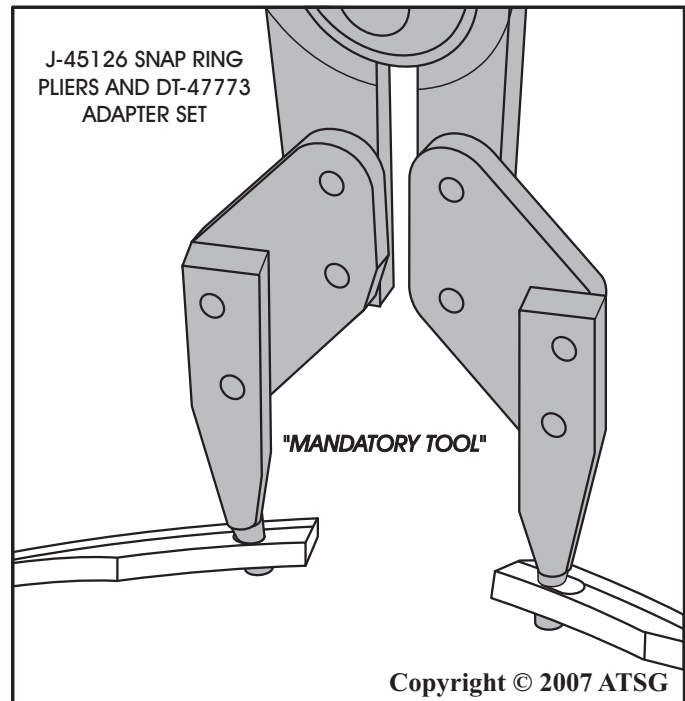

Figure 49
12. Remove the center support snap ring using the J-45126 snap ring pliers along with DT-47773 adapter set, as shown in Figure 49.